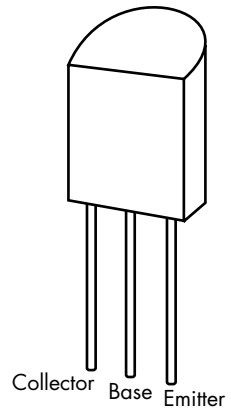

Figure 4-7: ZTX649 transistor pinout in a TO-92 package
20. Insert five ZTX649 transistors, each using three rows, on one side of the breadboard. (Figure 4-7 shows the transistor pinout.)